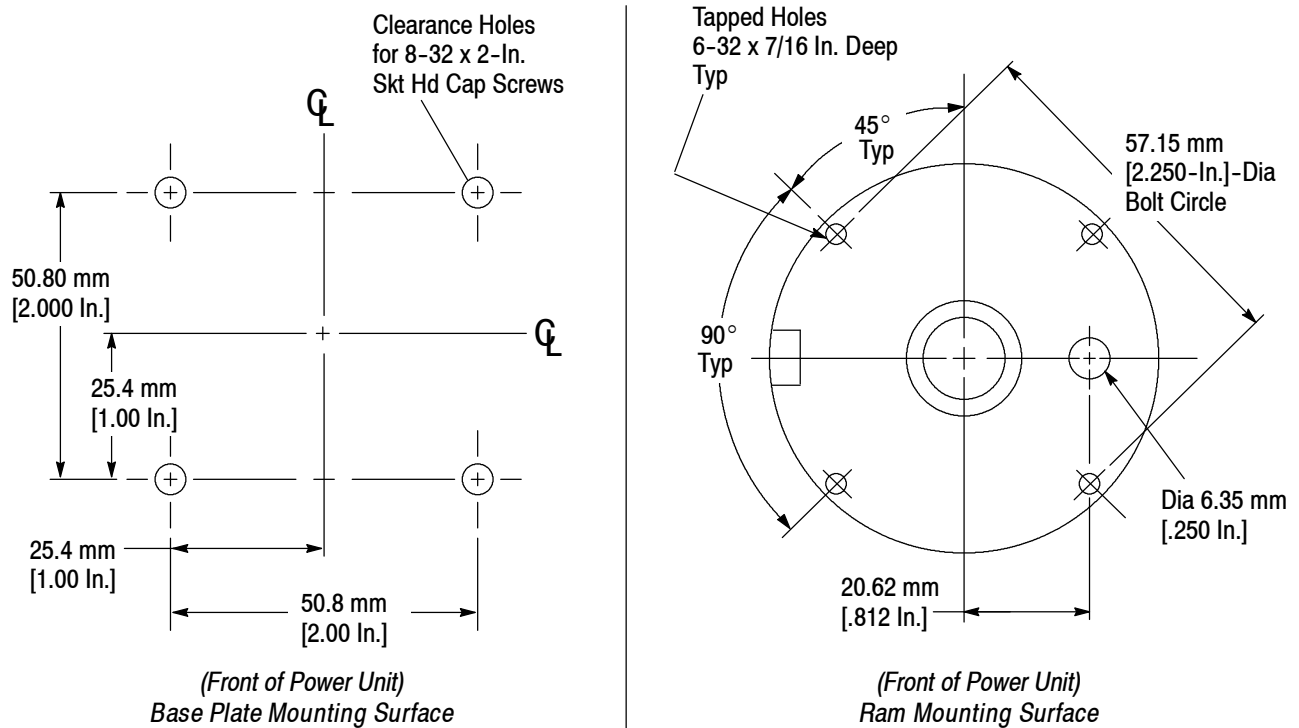

Figure 11
4. Install the appropriate die holder assembly and die assembly in the machine. Use the instructions supplied with the assemblies for additional information on installing tooling assemblies. Figure 11 shows the mounting hole pattern of the base plate (for lower tooling) and ram surface (for upper tooling).